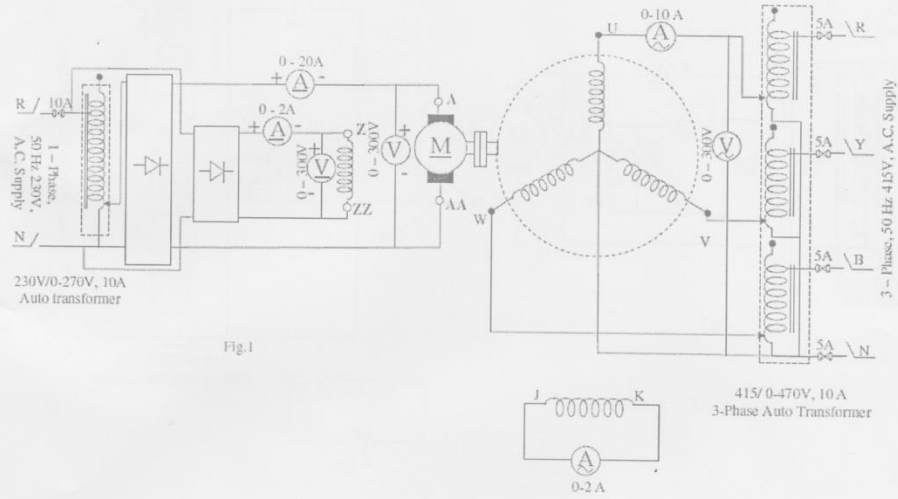

Fig.1
1. Connections are given as per the circuit diagram shown in figure 1.